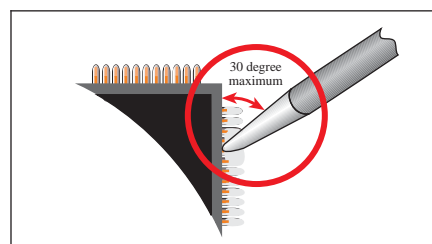

Figure 2 Hold Tip Parallel
5. Hold the tip so the shaft runs parallel to the row of leads, putting the side of the tip toward the side of the component. The angle between the side of the tip and the side of the component can be up to 30 degrees depending on operator preference. (See Figure 2.)